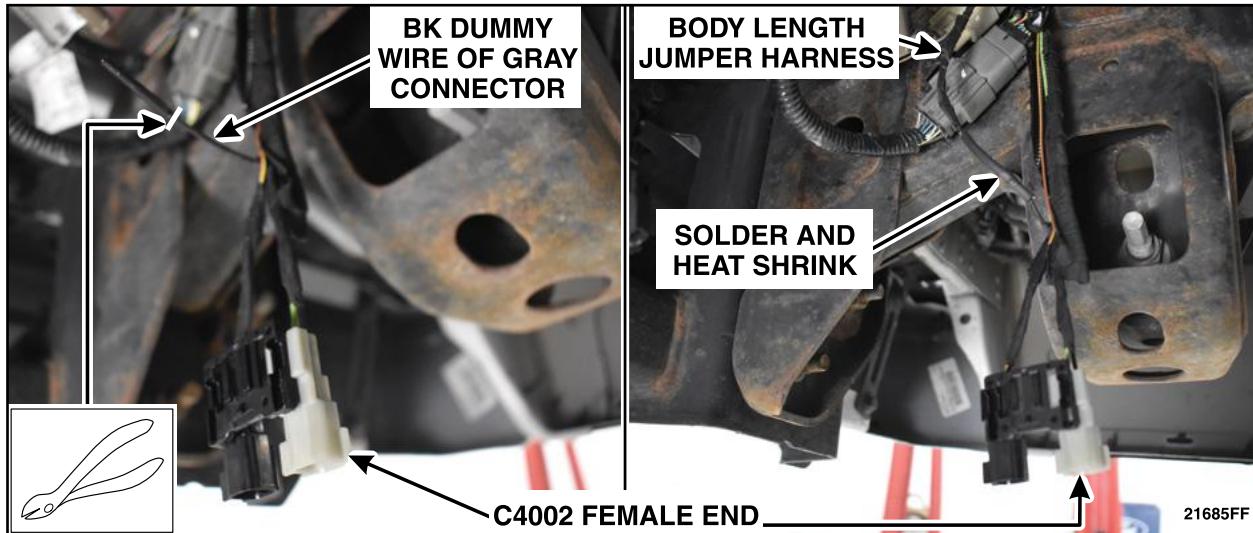

FIGURE 33
38. Remove any tape and/or convolute from the gray C4002 female end to expose the Black (BK) dummy wire. Cut the BK dummy wire just in front of the heat shrink tubing and discard the heat shrink end. Cut off the sealed terminal on the Body Length Jumper Harness. Install a *new* piece of heat shrink tubing, twist the Body Length Jumper Harness and the C4002 female end black dummy wire together. Solder the twisted wires and apply and seal the heat shrink tubing. Reapply the convolute and/or black electrical tape. See Figure 33.